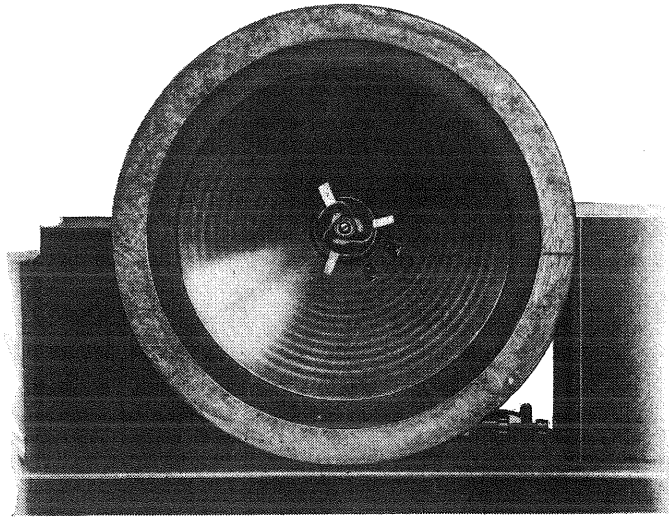

Figure 18—View showing loudspeaker adjusting strips
5. Place three pieces of cardboard the thickness of a visiting card and approximately  $1\frac{1}{2} \times \frac{3}{4}$  in. in size in the space between the inside of the cone coil and the pole piece. This is shown in Figure 18.